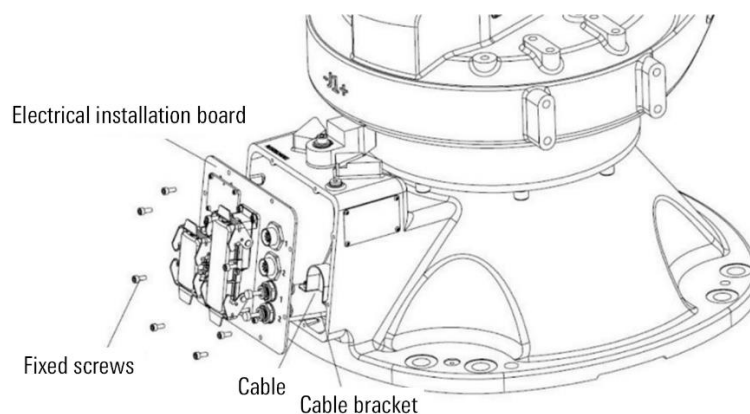

Figure 12-4 AIR50-2260/AIR80-2260/AIR35-2700/AIR20-3100 base internal cable
Step1. Remove the electrical mounting plate as shown in Figure 12-4 or Figure 12-5, and pull out the internal cables of base.
Step8. The cable in the base to keep the shape "U" type like the Figure 12-4 and Figure 12-5.